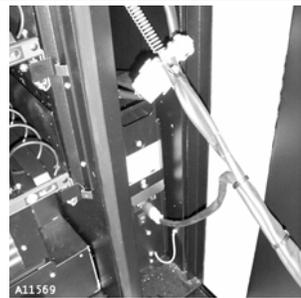

Figure 4a. Door Harness
2. **Disconnect door harnesses** - Loosen the nut and bolt that attaches the harness retaining spring to the door harness and unhook the spring from the harness. Unplug the door harness. Unplug the door glass heater harness from the power panel. See Figure 4a.
8. **Connect door harnesses** - Plug the door glass heater harness to the power panel. Plug the door harness to the cabinet harness. Hook the harness retaining spring to the bolt and tighten the nut. See Figure 4a.